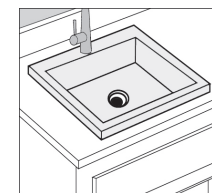

Figure 6
10. After the sink is positioned and securely in place, place the plumbers putty around the underside of the faucet body or its mounting plate and install it into the sink (Figure 6).